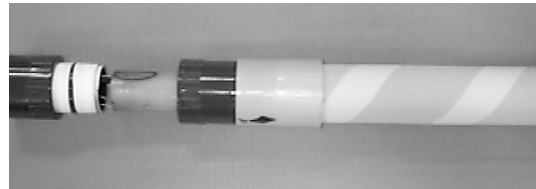

Figure 1
1. Remove the Shell from the Bulkhead, leaving the Electrode attached to the Bulkhead. (See Figure 1)